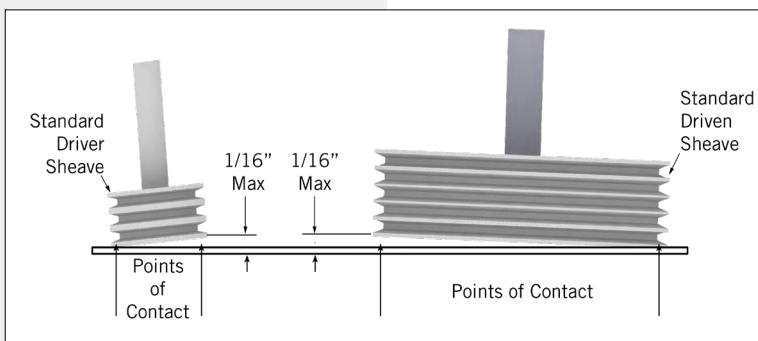
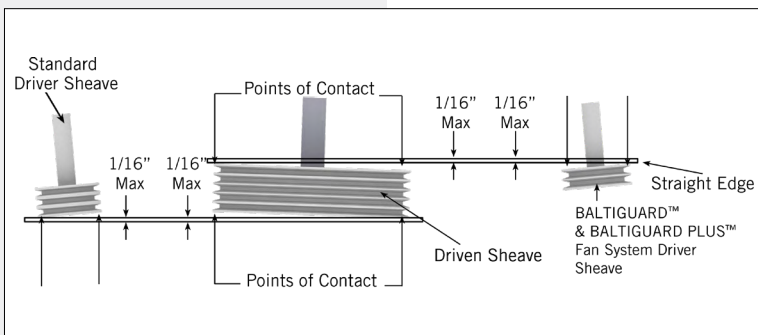

Figure 4a. Standard Drive Alignment
Figure 4b. BALTI GUARD™/BALTI GUARD PLUS™ Fan System Drive Alignment
- Place a straight edge across the driver and the driven sheaves as shown in **Figure 4a** for standard drives and in **Figure 4b** for the BALTI GUARD™ Fan System or the BALTI GUARD PLUS™ Fan System.
- The straight edge should contact all four points as shown in **Figure 4a** indicating that the drives are properly aligned.